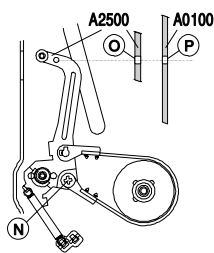

Fig. 17
- Set the brake band adjustment screw ① (Fig. 17) so that hole ② of the tension arm (Pos. A2500) lies above hole ③ of the mechanism chassis.